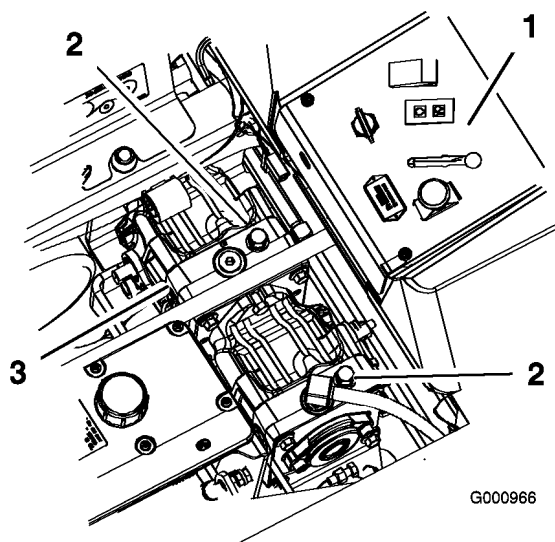

Figure 28
2. Rotate the by-pass valves counterclockwise 1 turn to push. This allows hydraulic fluid to by-pass the pump enabling the wheels to turn (Figure 28).
Rotate the by-pass valves clockwise 1 turn to operate machine (Figure 28).